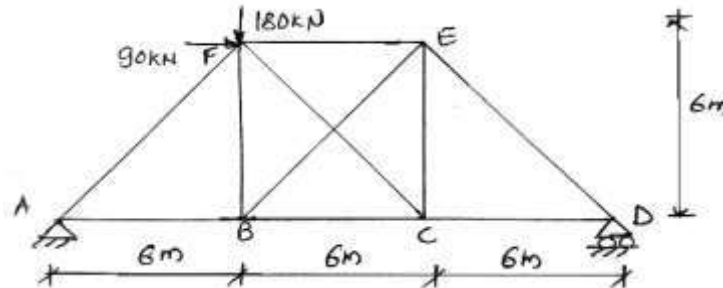

Fig. 3
- Q.4 Find the forces in the members of redundant frame shown in fig.3 cross sectional area of each members is 1000mm^2 & $E = 2 \times 10^5 \text{ N/mm}^2$ 15
- Q.4 Find the forces in member BE & CF of truss shown in fig.3 the ratio of length to cross – sectional area for all members is the same. The frame is pinned at A & rest on rollers at D. 15